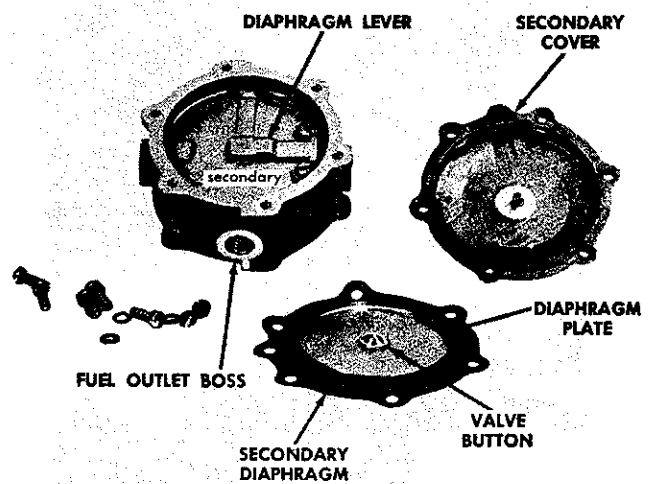

FIGURE 10
8. Remove secondary cover and diaphragm. Figure 10.
4. Place regulator body on bench with side marked "secondary" up and fuel outlet boss toward operator. Figure 10.